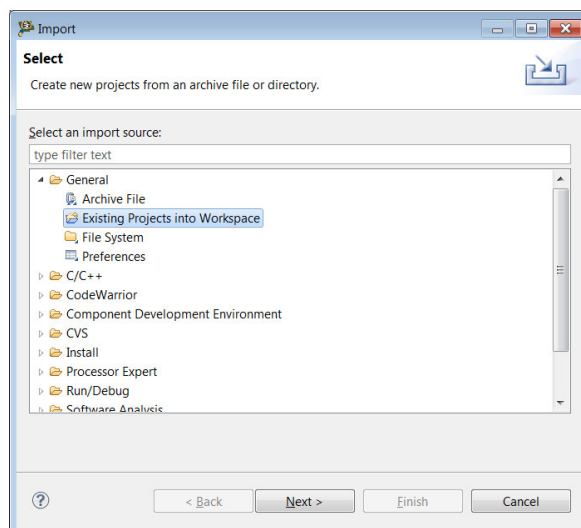

Figure 10. Import dialog window
4. Import the project using File-> **Import** option, see Figure 10 select **General->Existing Projects into Workspace**